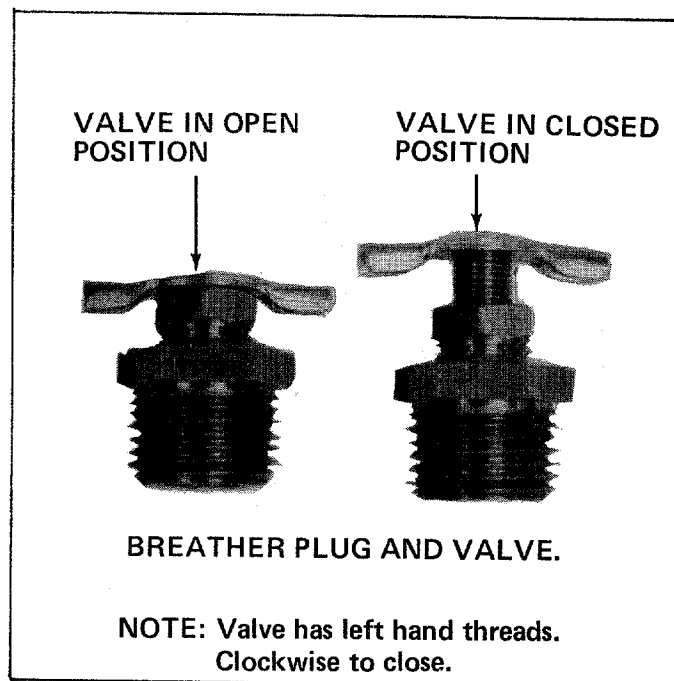

FIGURE 5
3. Open the breather valve. Valve must be open when running log splitter. Valve must be closed when transporting log splitter. See figure 5.